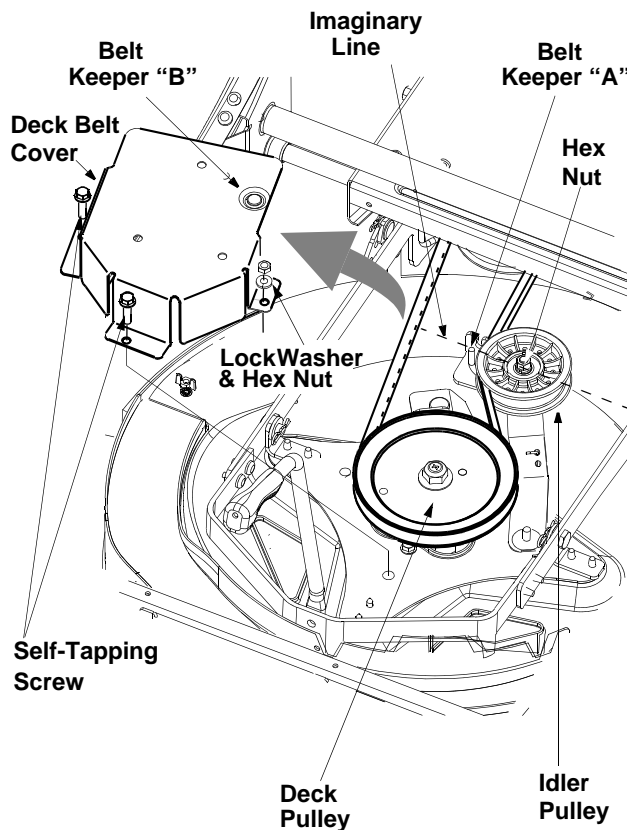

Figure 15
- Using a 9/16" wrench, loosen the hex nut on the idler pulley. See Figure 15.
- Using a 1/2" socket wrench, remove two self-tapping screws, lock washer and hex nut that hold the deck belt cover to the deck. See Figure 15 . For this, you will have to work from the top left side of the mower. Remove the cover.
- Place the new belt around the deck pulley and the engine pulley making sure that the belt is routed inside the belt keepers. There are two belt keepers under the grasscatcher, one on the idler and the other under the deck belt cover. See Figure 15 .
- Make sure to align the belt keeper in line with the frame. See Figure 15 .
- Push the spring loaded idler, located on the left side of the transmission, to the right. Remove belt from around the idler and then the transmission pulley. See Figure 15 .